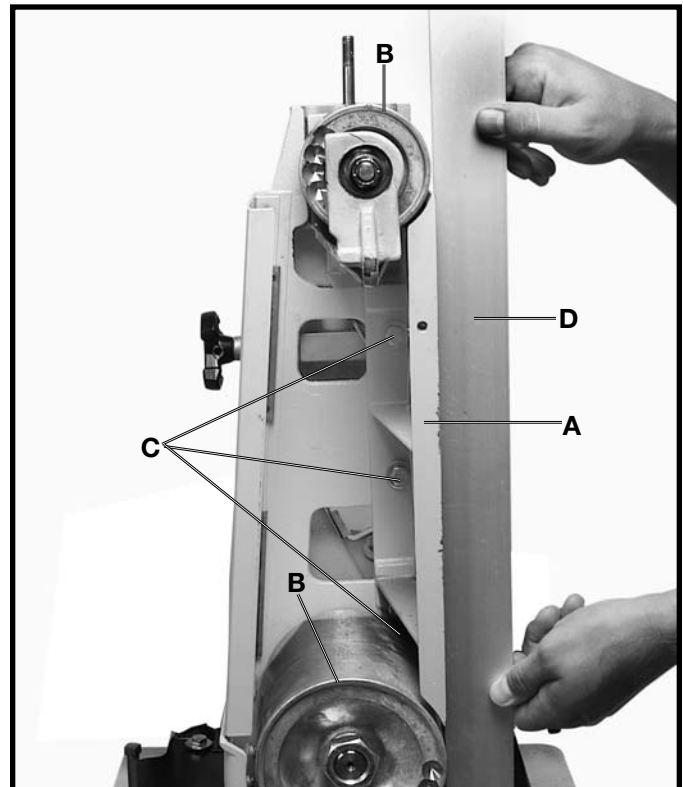

Fig. 26
2. Remove the three screws (C) Fig. 26, that attach the platen to the machine and remove the platen.
3. When replacing the platen, attach it to the machine with the three screws (C) Fig. 26. Do not tighten the three screws.
4. Using a straight edge (D) adjust the platen (A) Fig. 26, so it is 1/32" higher than the crown of the drums (B), and tighten the three screws (C).